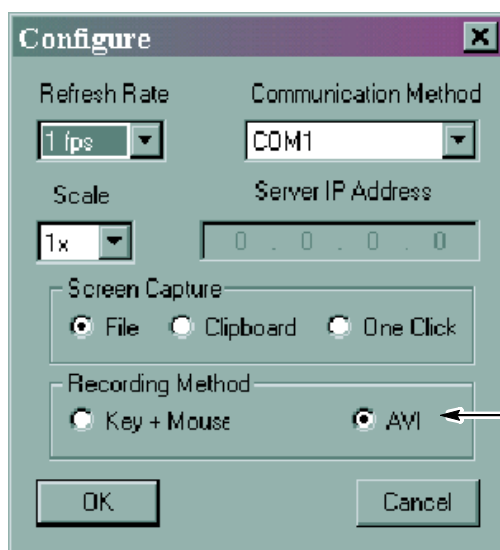

Figure 3-10: Setting the record method to AVI
1. To specify the recording method, click the wrench icon (). This displays the Configure window shown in Figure 3-10.